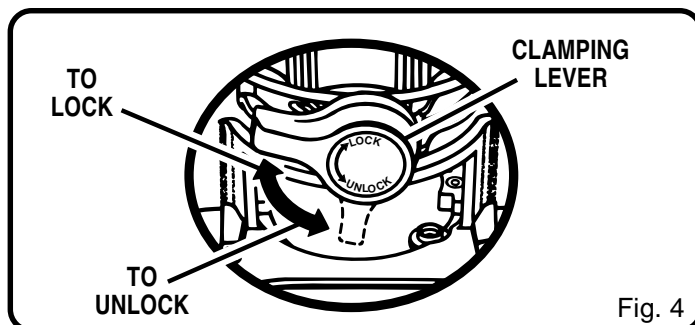

Fig. 4
See Figures 4, 5, 6, and 7.
- Place your router on a flat surface, unlock clamping lever, and turn depth adjusting ring until cutter is inside subbase. See Figures 4 and 5.